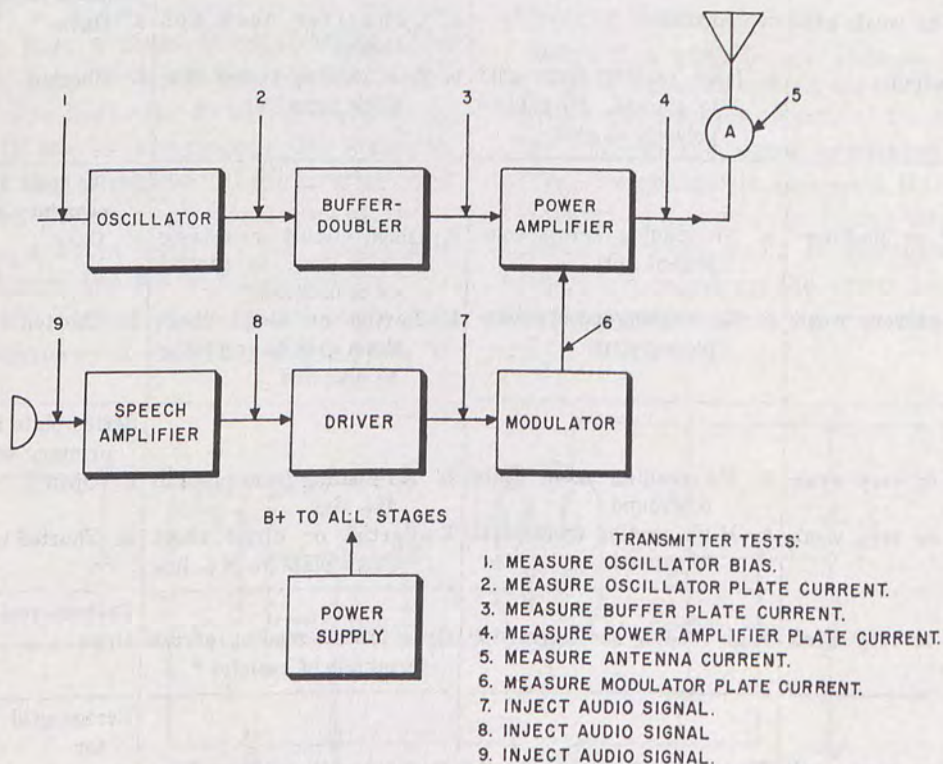

Figure 71. Simple transmitter, block diagram.
stage is found, B+ voltages are measured to aid in isolating the trouble. In the simple transmitter represented in figure 71, the key test points are:
- (1) Oscillator grid circuit.
- (2) Oscillator plate milliammeter.
- (3) Buffer plate milliammeter.
- (4) Power amplifier plate milliammeter.
- (5) Antenna ammeter.
- (6) Modulator plate milliammeter.
- (7) Driver output.
- (8) Driver input.
- (9) Speech amplifier input.
b. Test No. 7 in figure 71 requires the injection of an audio signal. Usually, this is practi-
The transmitter shown in figures 72, 73, 74, and 75 is more elaborate and complex than the one in figure 71. It has many additional and special features including remote control operation, sidetone oscillator, frequency multipliers, protective clamper, ganged tuning, audio clipper, low-pass filter, high-pass filter, pi-network plate loading, separate bias power supply, and separate antenna tuning unit.